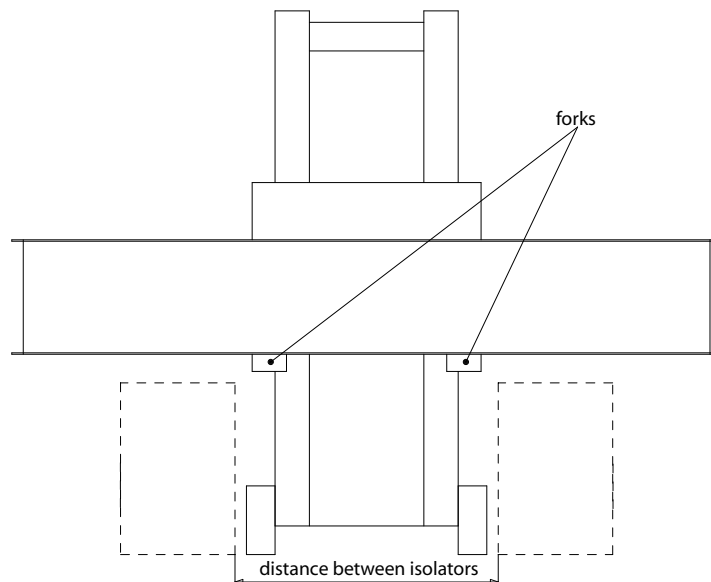

Fig. 2.3 Distance between forks
- 1) Raise the table on a fork-lift truck, ensuring that the fork distance is set such that the forks can pass between the supports when the table is lowered into position – See Fig. 2.3.